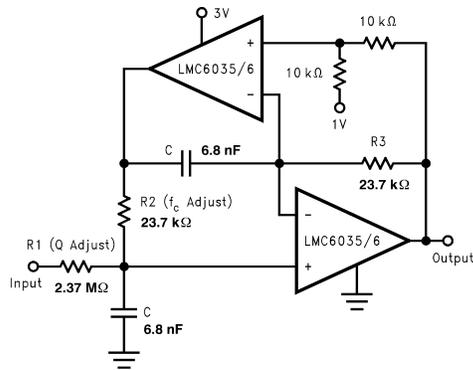

FIGURE 7. 2 Pole, 1 kHz Active, Bandpass Filter
The dual amplifier bandpass (DABP) filter features the ability to independently adjust f_c and Q . In most other bandpass topologies, the f_c and Q adjustments interact with each other. The DABP filter also offers both low sensitivity to component values and high Q s. The following application of Figure 7, provides a 1 kHz center frequency and a Q of 100.
1. First choose a center frequency (f_c). *Figure 7* represents component values that were obtained from the following computation for a center frequency of 1 kHz.